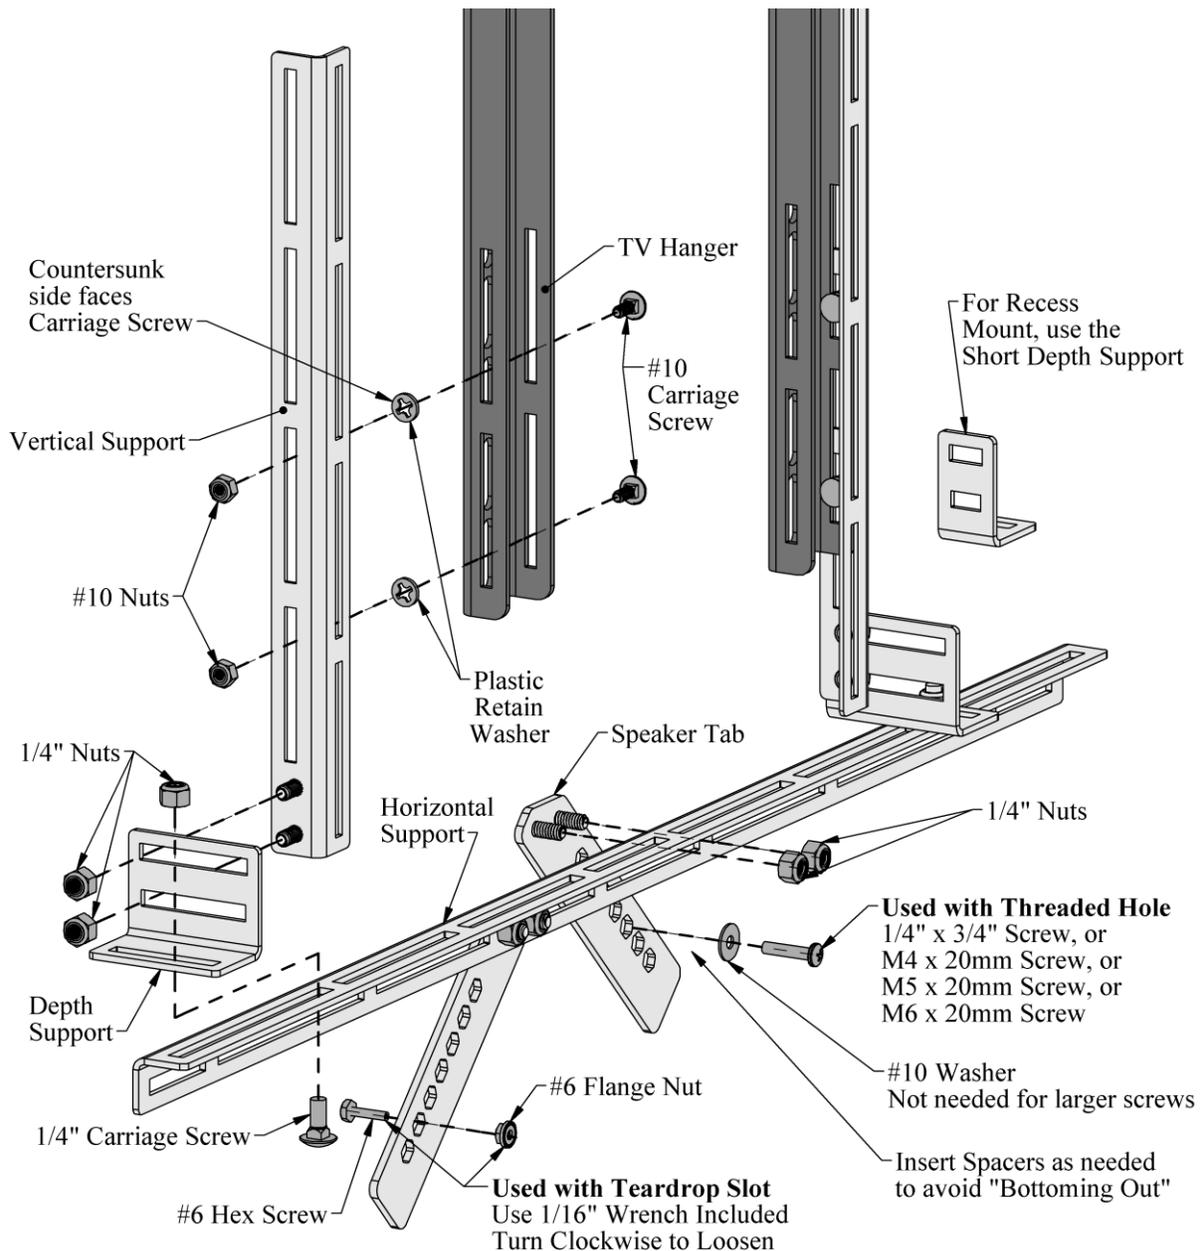

Figure 3 Setup for a Soundbar Below the TV
- See Figure 3 for assembly details
2. Figure 3 shows how to assemble the Soundbar below the TV, for above the TV, flip the entire assembly over.